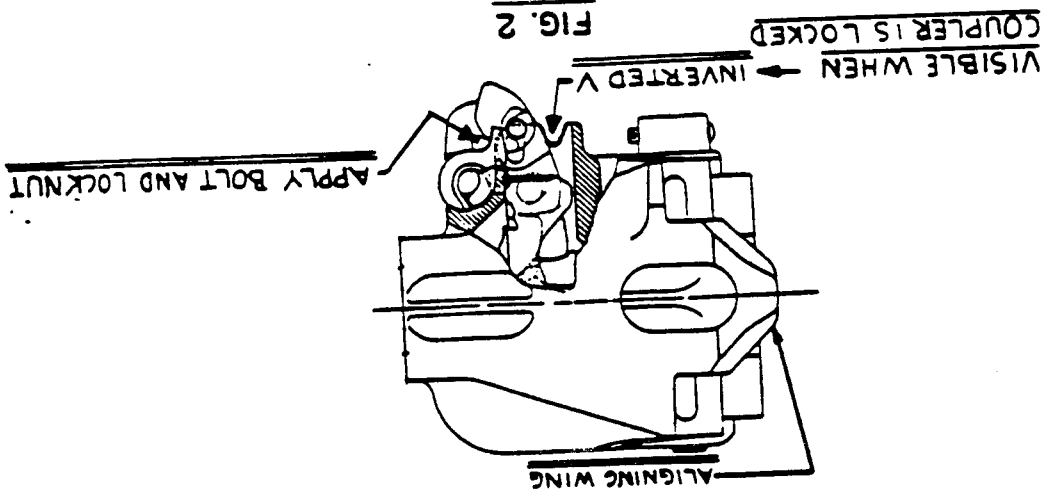

FIG. 2
4. Check for excessively worn, distorted, or broken aligning wing and/or guard arm (Figure 2).
6. Observe the (inverted V) rotary locklift is clear, indicating coupler properly locked (Figure 2).